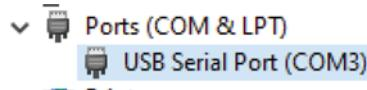

Fig. 11.4: Getting the COM port number from the windows device manager
Step 3: Find entries that say *USB Serial Port*. Figure 11.4 shows an example where the COM port number is COM3. Note: The DE10-Nano board needs to be plugged into the Mini-B USB cable for the COM port to show up in Windows.